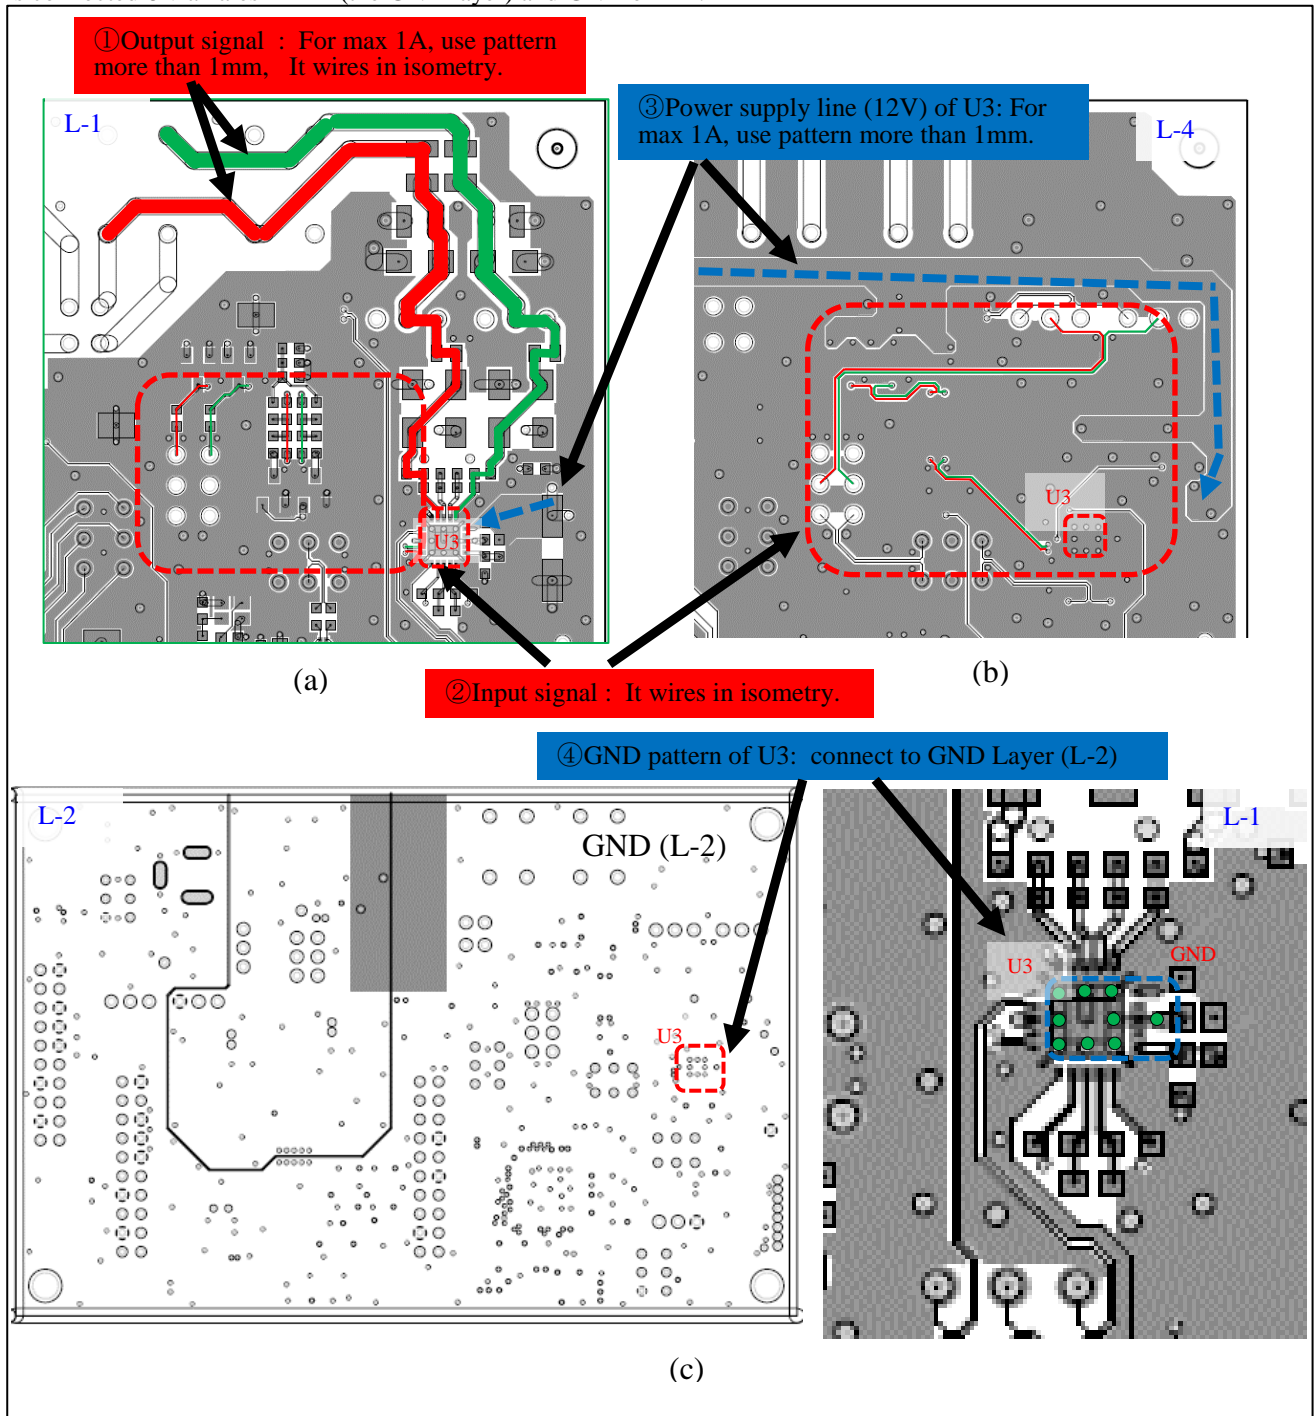

Figure 3-11 Example of the PCB layout around U3 (ISL15110)
Figure 3-11 shows the example of the PCB layout around U3 (ISL15110). A red and a green line of ① are output signals, and this signal uses patterns more than 1mm because current of up to 1A flows. A red and a green line surrounded in a broken red line of ② are input signals, and are wiring in isometry. A blue broken arrow line of ③ is 12V wiring pattern, and this signal uses patterns more than 1mm because current of up to 1A flows. GND of U3 of ④ is connected 8 via holes in L-2 (the GND layer) and GND of L-4.